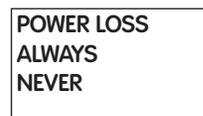

Figure 35. AUTO START
2. Use the **Up** and **Down** arrows on the control unit or the left and right Camera Head buttons to scroll through the available options (Figure 35). Press **Select** to activate the desired option. Press **Select** to activate the desired option.